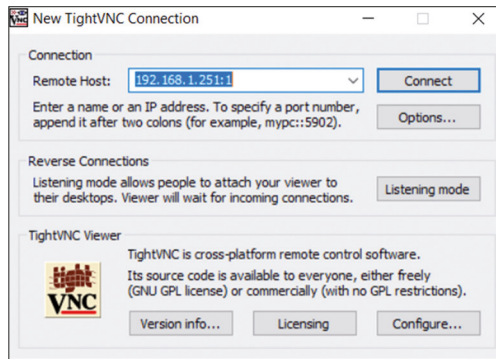

Figure 1.11: Connect to TightVNC Viewer.
- Start the **TightVNC Viewer** on your PC and enter the Raspberry Pi IP address followed by :1. Click **Connect** to connect to your Raspberry Pi (Figure 1.11)